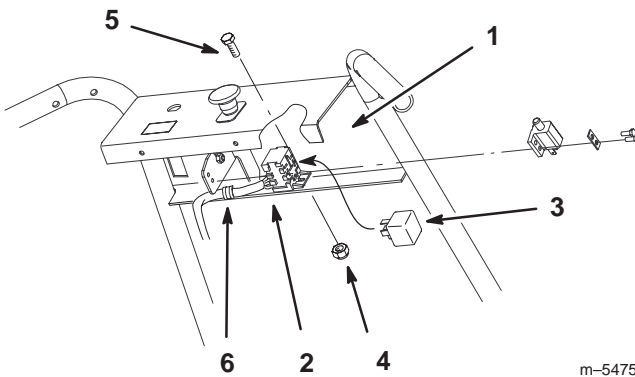

Figure 32
12. Install harness into “R” clamp located under control panel (Fig. 32).